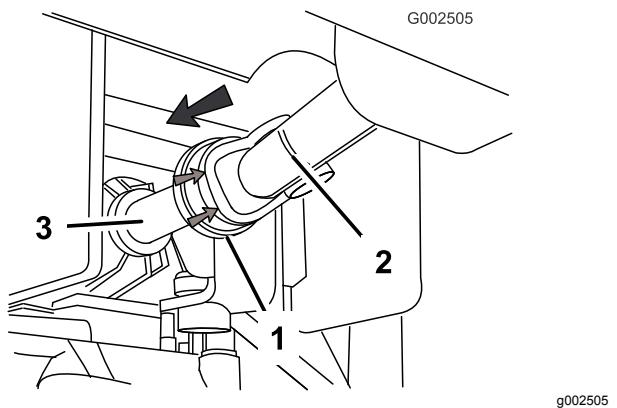

Figure 14
- Pull rearward on the rubber cowling of the front of the PTO drive shaft (Figure 14).
- Install the drive shaft onto the PTO output shaft (Figure 14).